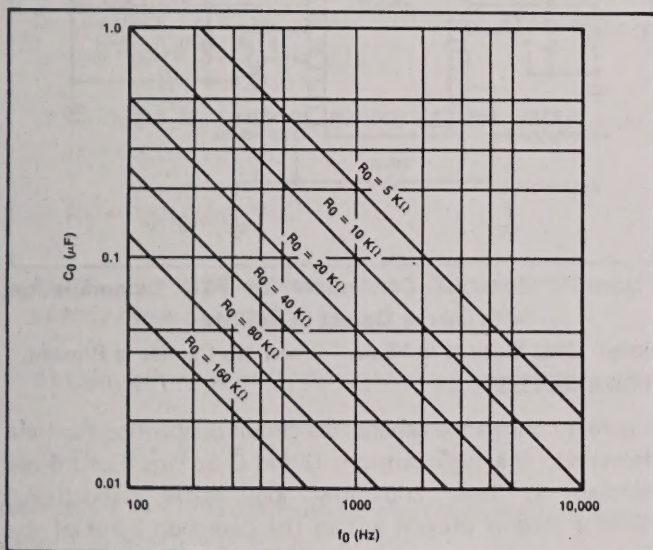

Figure 5: VCO Frequency vs Timing Resistor
**VCO Timing Capacitor** (Pins 13 and 14): VCO frequency is inversely proportional to the external timing capacitor,  $C_0$ , connected across these terminals (see Figure 5).  $C_0$  must be nonpolar, and in the range of  $200 \text{ pF}$  to  $10 \mu\text{F}$ .